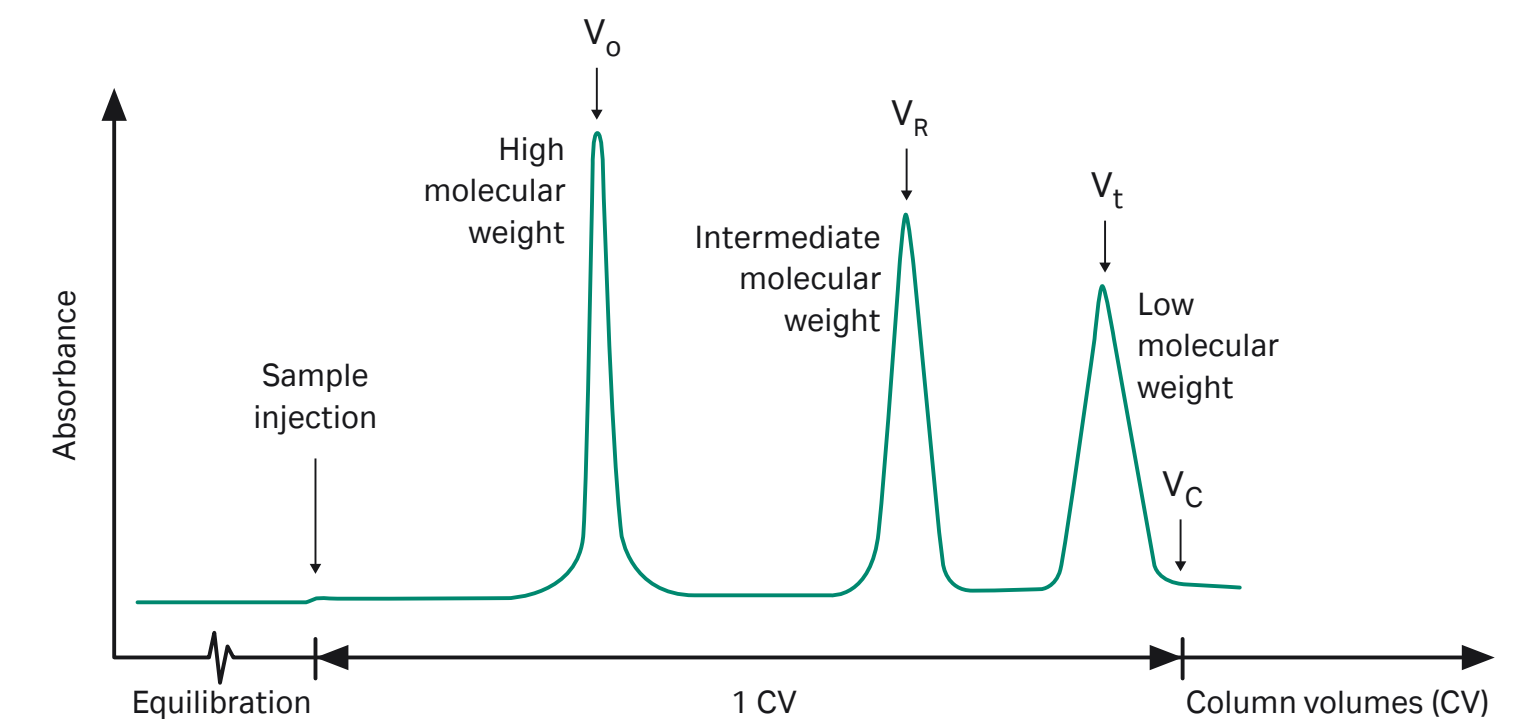

Fig 1. Schematic process of SEC.
Size exclusion chromatography (SEC), also called gel filtration (GF), separates molecules on the basis of differences in size as they pass through a SEC resin packed in a column. SEC resins consist of spherical chromatography particles (chromatography beads) with pores of different sizes where molecules small enough to enter the pores are retarded as compared to larger molecules (Fig 1). Samples are eluted isocratically (single buffer, no gradient). Buffer conditions can be varied to suit the sample type or the requirements for the next purification, analysis, or storage step.